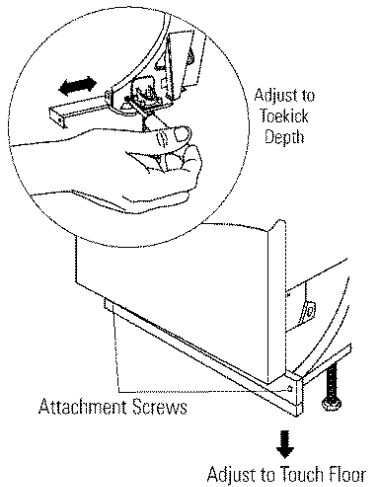

FIG 21
- 2 Slide bracket out to proper depth and tighten screws. See Figure 21.